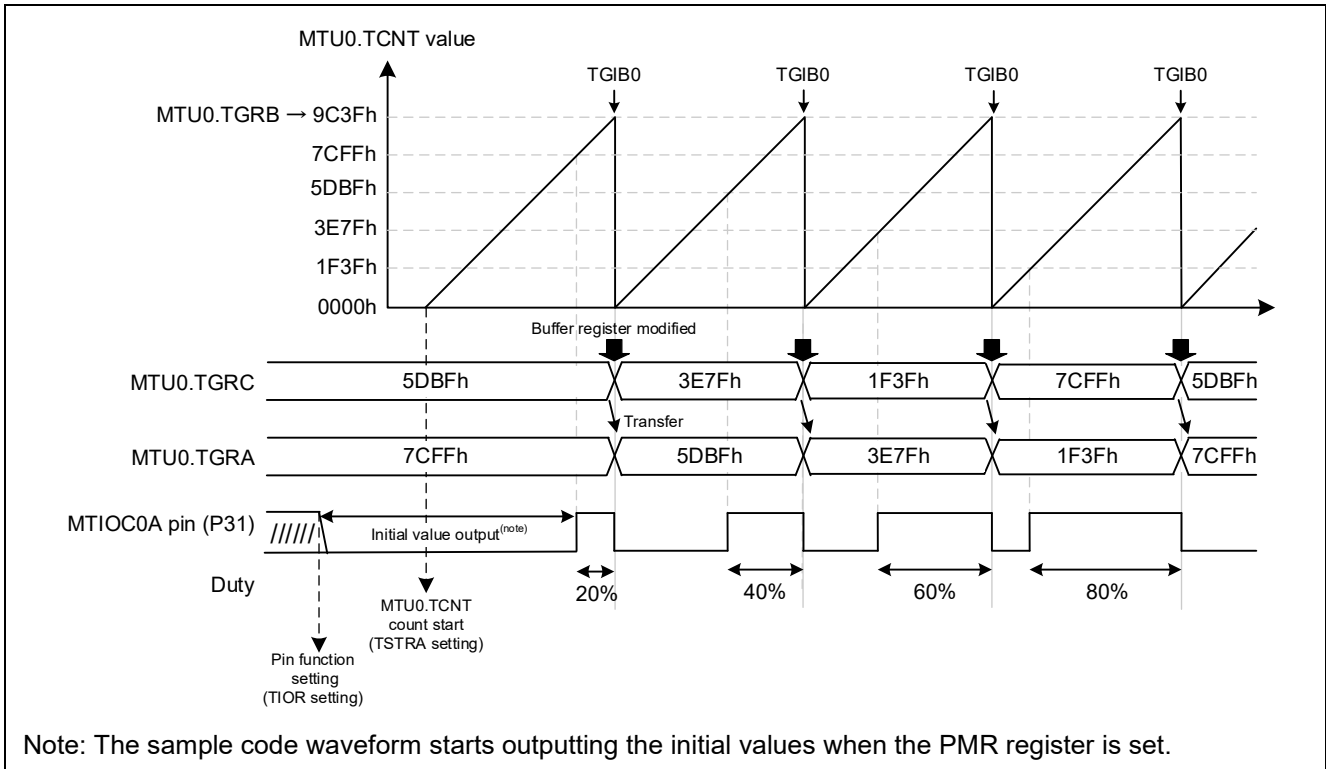

Figure 3.12 Sample Code Operations
- Refer to Figure 3.12 for details on timing for duty cycle changes
The sample code operations are shown in Figure 3.12. The settings of the duty cycle are changed with each period by modifying the value of buffer register TGRC at the TGIB0 of period register TGRB. The TGRC value is transferred to duty register TGRA when a counter clear occurs.